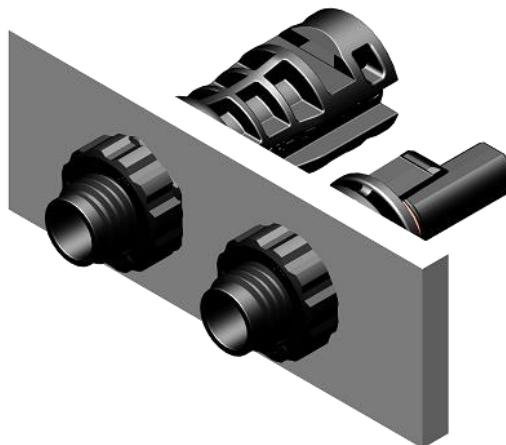

Figure 17
- ◇ 安装公/母面板连接器时，推荐用 2.0 Nm 的扭矩锁紧螺母。具体情况，需要由终端用户根据不同的面板验证合适的扭矩。(如图 17)
When installing the male or female panel connector, it is recommended to use 2.0 Nm torque lock nut. The appropriate torque has to be verified in the end use according to the respective housing.(Fig.17)